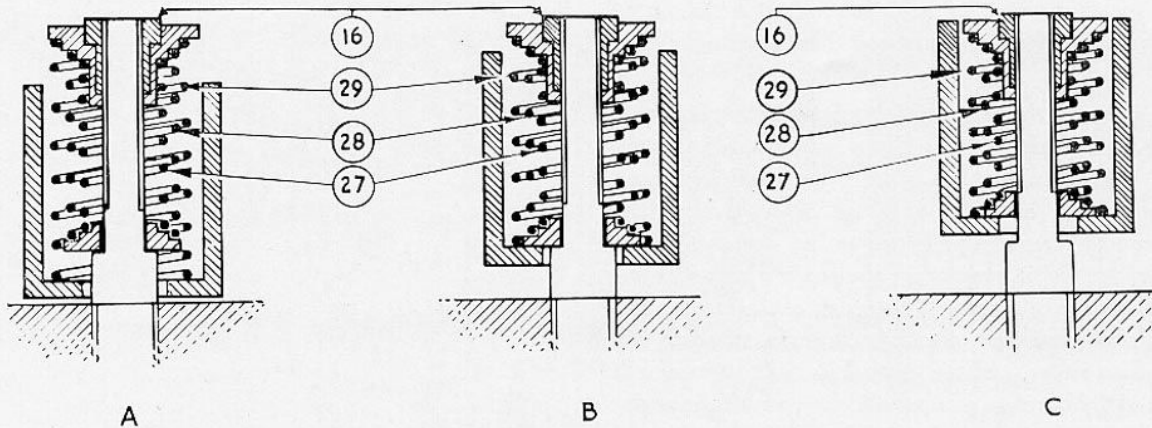

FIG. 3. OPERATION OF GOVERNOR SPRING
Movement of the fly-weights is governed by two sets of springs (see Fig. 3). At idling speed (illustration A), the weights move outwards a comparatively short distance and compress only the outer springs (29). Should the engine speed tend to increase, the greater centrifugal force exerted on the fly-weights will move them further outwards. This action of the weights will pull the crosshead assembly inwards, towards the camshaft sleeve, and the control rod will be moved to reduce the injection pump fuel delivery until the engine idling speed is brought back to its original setting.
Throughout the intermediate speed range of the engine, the governor fly-weights compress the outer idling springs (29), (Fig. 3) but are prevented from further outward movement by the heavier inner springs (27 and 28). The weights therefore remain in the position shown (B), (Fig. 3), until maximum speed is reached.